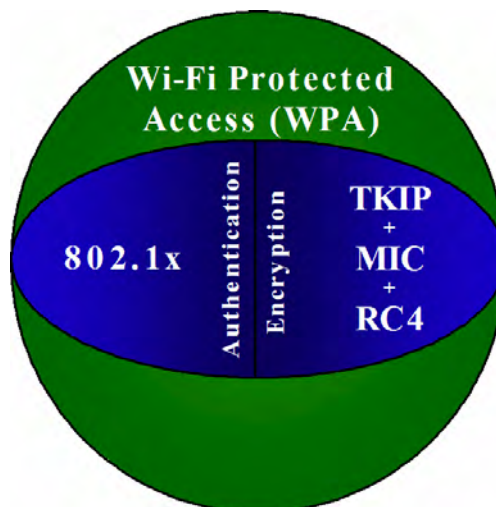

FIG. 91 WPA Overview
- To resolve problems with WEP, the Wi-Fi Alliance released WPA (FIG. 91) which integrated **802.1x**, **TKIP** and **MIC**. Within the WPA specifications the RC4 cipher engine was maintained from WEP. RC4 is widely used in SSL (Secure Socket Layer) to protect internet traffic.